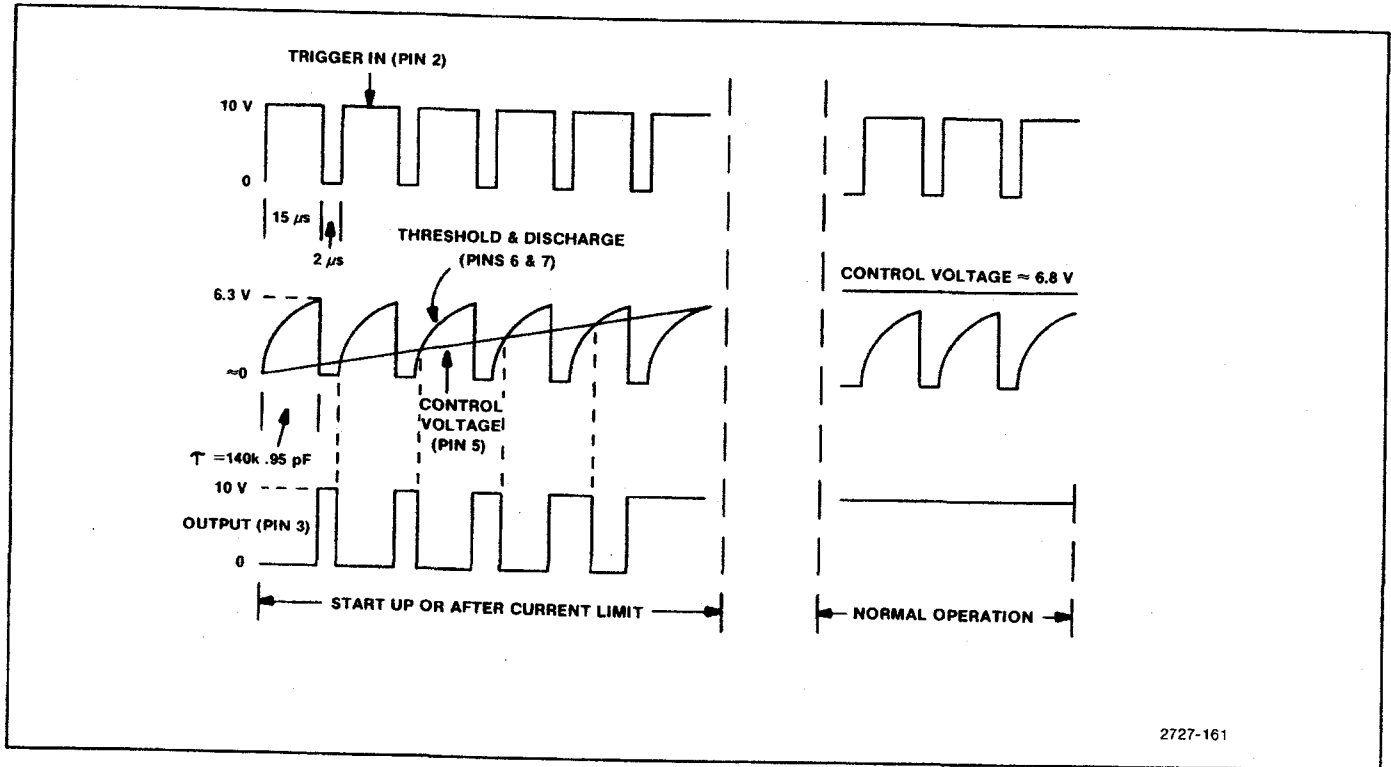

Figure 7-35. Timing waveforms for soft-start circuit.
**Soft-Start and Primary Over-Current Circuits.** The soft-start circuit consists of U6053 and associated components. Soft-start gradually increases the switching transistor's duty cycle at turn-on or after over-current shutdown to prevent excessive transistor current due to charging output capacitors. Refer to Figure 7-35 for timing waveforms.